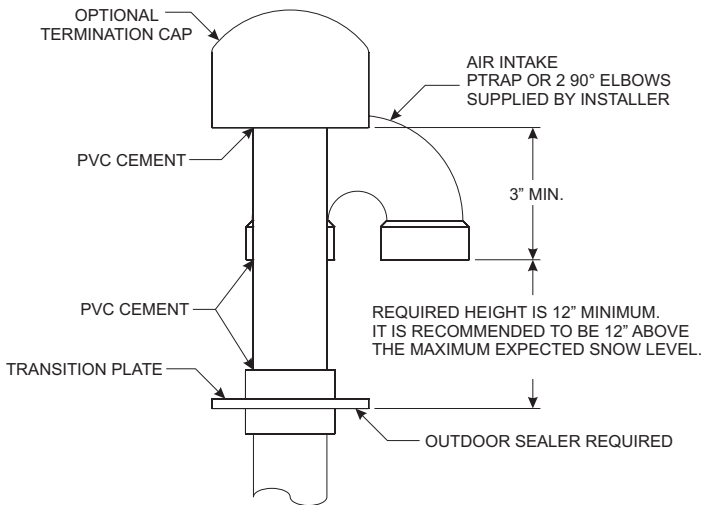

Figure 11
1. Attach the plate to chimney chase, flat roof, or outside wall with four (4) screws. Use outdoor sealant to seal the transition plate to the surface.
2. Both inlet air pipe and flue exhaust pipe must be 12 inches from the roof line, and it is recommended to be 12 inches above the maximum snow line. Also refer to local codes. See Figures 11 and 12.